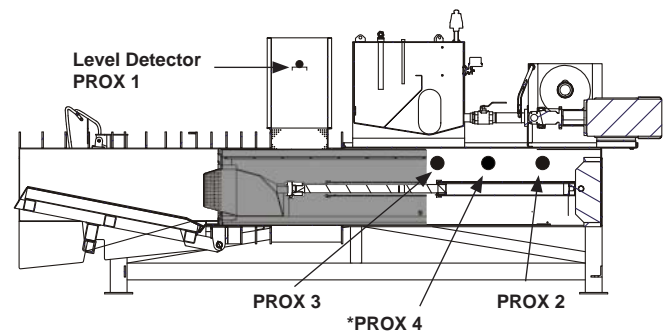

Figure 29 - PROX 3 and PROX 2 Deactivated
4. **PLUNGER EXTENDS** The plunger extend is delayed according to EXTEND DELAY pot #4 (see Potentiometer page 13 for adjustments). AUTO ANTI PLUG starts if the plunger isn't fully extended in 4 seconds (see ANTI PLUG page 10). The chamber is most likely plugged if this occurs (see UNPLUGGING CHAMBER page 15). The plunger passes \*PROX4 (see Figure 29 page 12), and the DVC-10 begins to ramp the directional valve closed. When the plunger passes PROX3, the valve closes all the way.
4. **PLUNGER EXTENDS** The plunger extends according to EXTEND DELAY pot #4 (see Potentiometer page 13 for adjustments). AUTO ANTI PLUG starts if the plunger isn't fully extended in 4 seconds (see AUTO ANTI PLUG page 10). The chamber is most likely plugged if this occurs (see UNPLUGGING CHAMBER page 15). The plunger passes \*PROX4 (see Figure 29 page 12), and the DVC-10 begins to ramp the directional valve closed. When the plunger passes PROX3, the valve closes all the way.